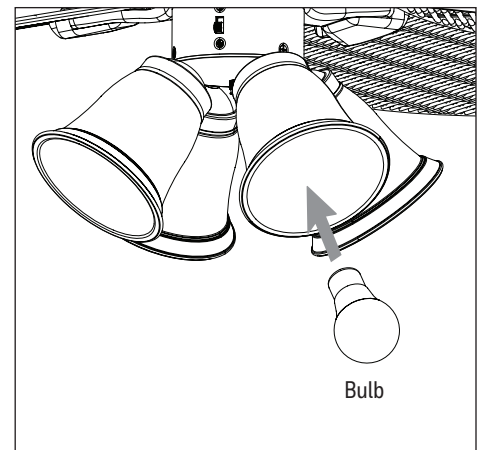

Figure 5.9
- Install the four E26-base LED bulbs (Figure 5.9).